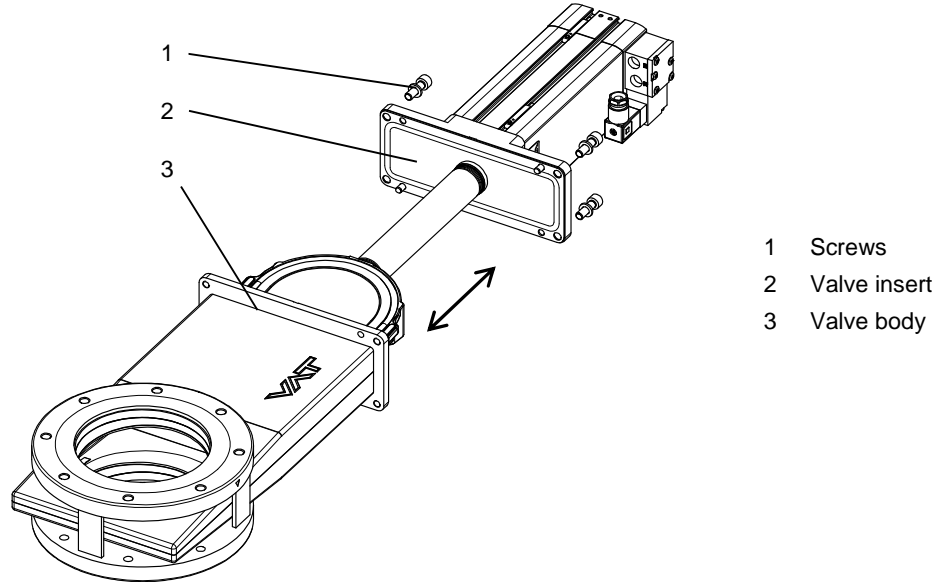

Figure 6-1
5. Remove screws (1); see «Figure 6-1» on page 17.
6. Pull out valve insert (2) from valve body (3); see «Figure 6-1».
15. Mount valve insert (2) into the valve body (3); «Figure 6-1» on page 17. Assure that the gate O-ring is facing the valve body seat side marker "▼"; see «Figure 6-2» on page 17.
16. Mount screws (1) according to «Figure 6-1» on page 17.